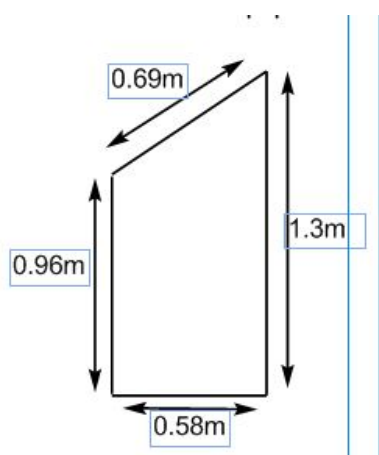
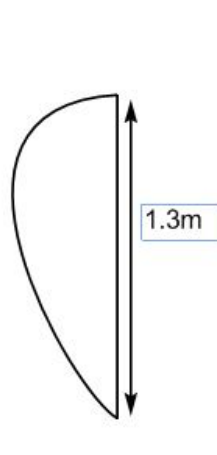
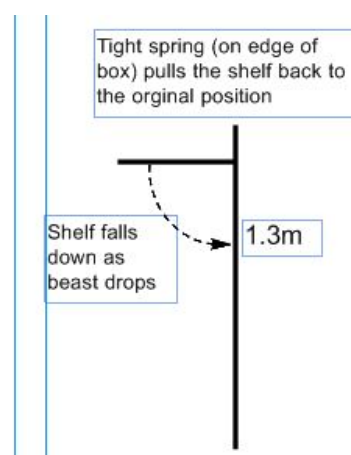

Figure 3 Box Style
Figure 4 Curved metal shelf
Figure 5 Pivoting shelf
- The shelf can be either a solid box (Figure 3), a piece of sheet metal curved to form a surface (Figure 4) or a metal shelf held by a counter balance (Figure 5)
- The fixed shelf (Figures 3 and 4) should be fitted in such a way that swing-doors are not impaired and the removal of the stunned animal is not affected
- The movable shelf (Figure 5) can be fitted in boxes with fully rotating doors as the shelf will drop as the gate goes over it